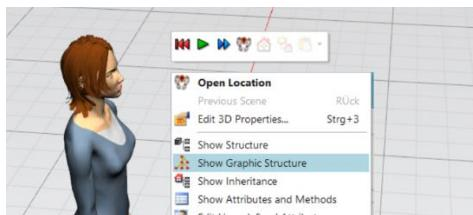

Fig. 9.21 Graphic structure
Step 1: Open the worker in a 3D window. Select from the context menu: **SHOW GRAPHIC STRUCTURE** (Fig. 9.21).